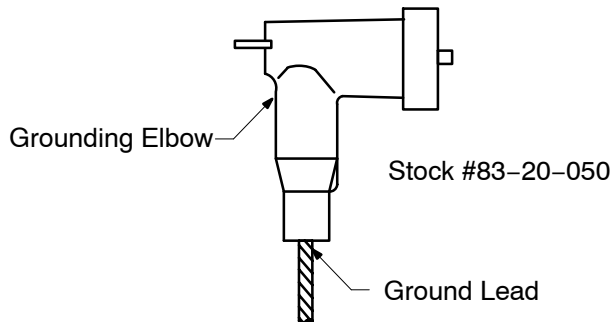

FIGURE 1
1. Connect lead on Grounding Elbow to Ground. **IMPORTANT: DO NOT INSERT GROUNDING ELBOW INTO FEED-THRU BUSHING UNTIL CIRCUIT HAS BEEN TESTED "DEAD".** Grounding elbow shown in Figure 1.